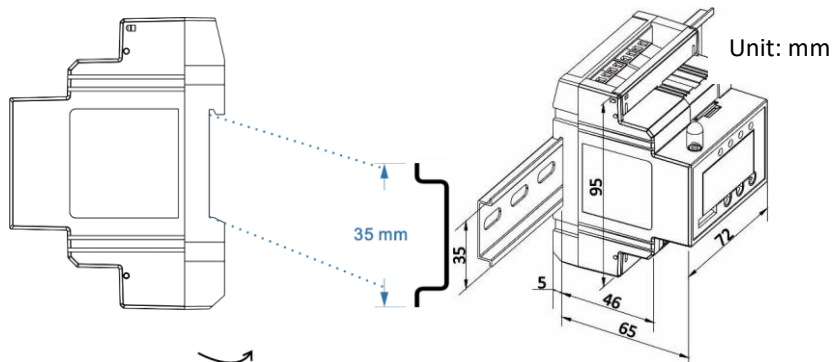

Figure 2-13 DIN-Rail Installation
3. Align the top of the mounting channel at the back of the PMC-350-C at an angle against the top of the DIN Rail as shown in **Figure 2-13** below